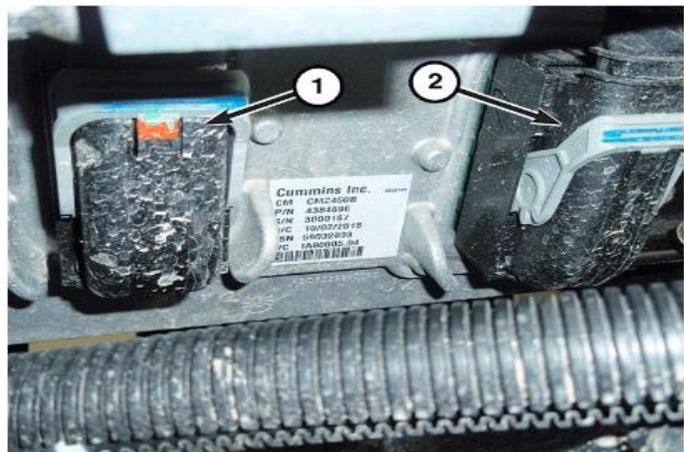

Figure 4 - Connectors
9. Disconnect the engine (1) and transmission (2) wire harness connectors from the PCM (Figure 4).
4. Connect the engine and transmission wire harness connectors to the PCM and rotate the latches closed (Figure 4).